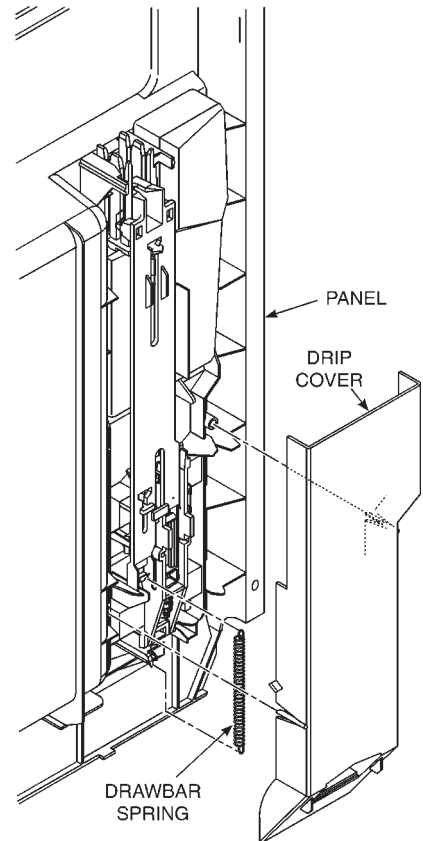

Fig. 3-10
1. Remove the drawbar spring. (Fig. 3-10)
11. Install the drawbar spring and snap the drip cover into place. (Fig. 3-10)